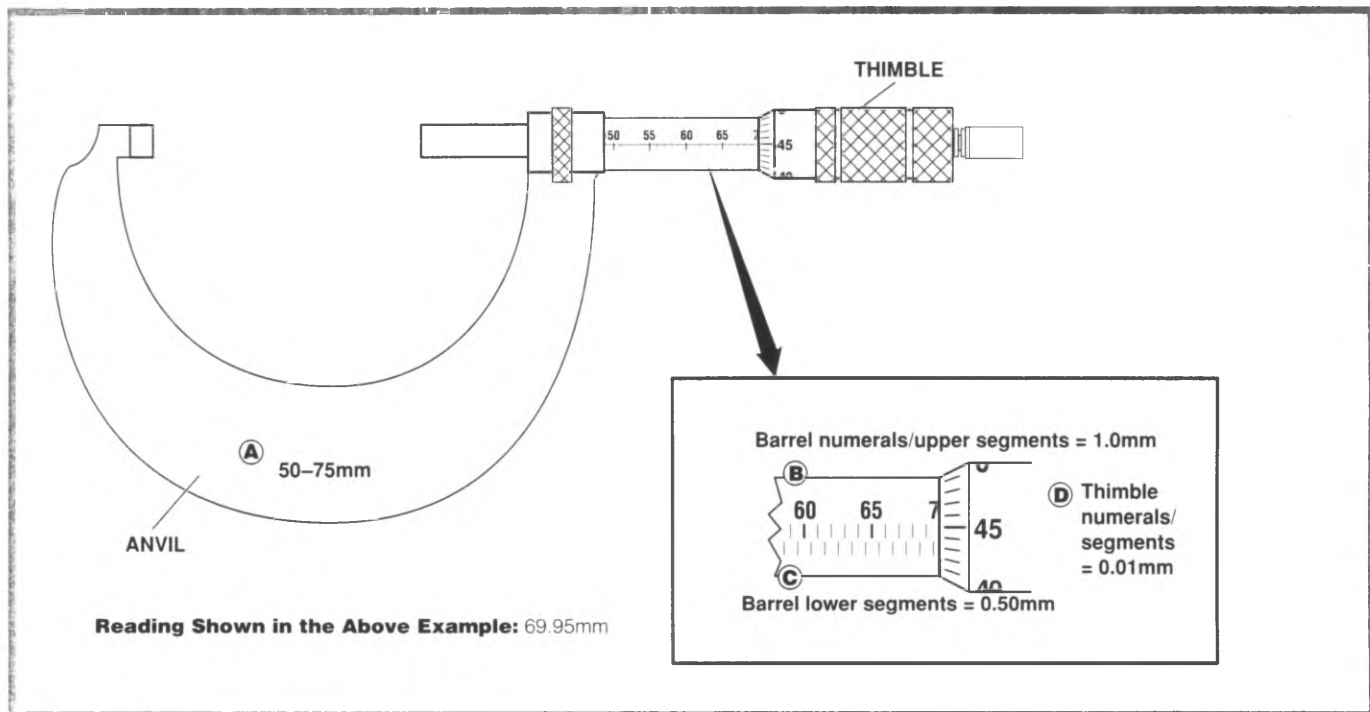

Figure 6-16, Metric Micrometer
1. Figure 6-16 illustrates a 50–75 mm micrometer. All readings will fall between 50 and 75 mm (see A).